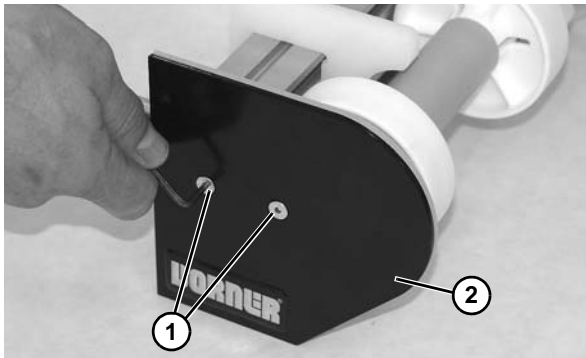

Figure 82
4. Remove the two flat head screws (Figure 82, item 1) and cover (Figure 82, item 2).